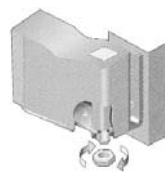

Fig. 5
b) Remove the locknut from the bottom hinge bracket (see fig. 5).